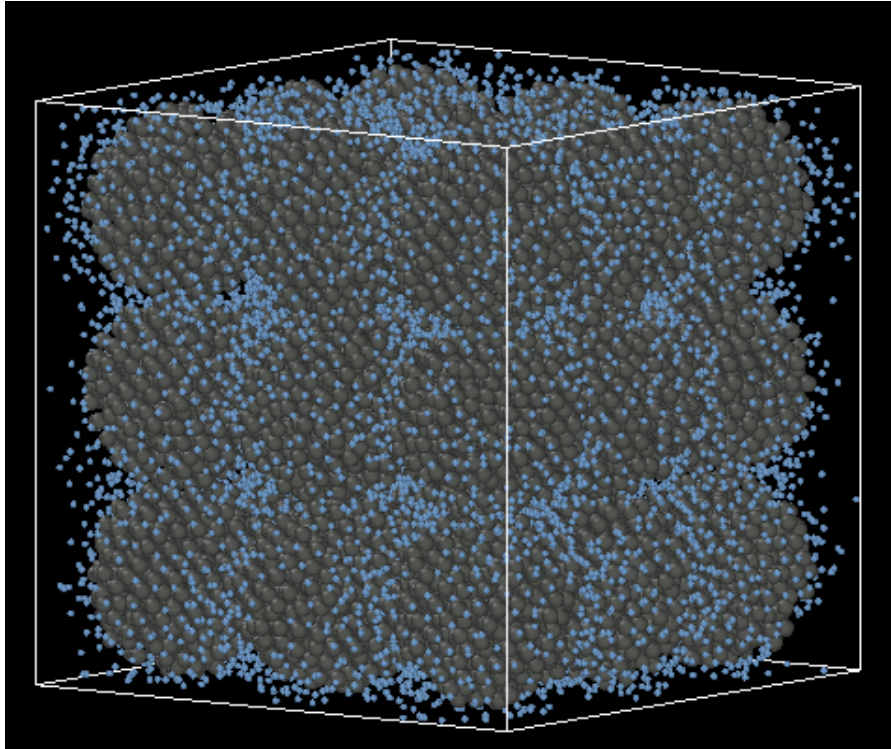

FIGURE 3.2. Nanoporous system of 27 evenly spaced spheres with flowing liquid argon.
- Generate a range of nanoporous materials, figure 3.2